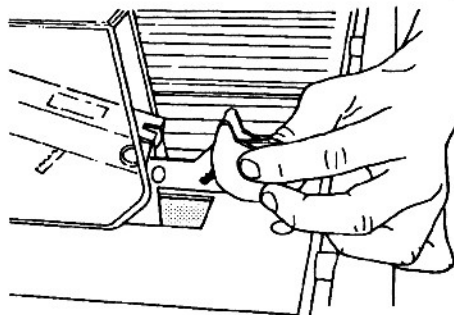

Fig. D-7
3. See Fig. D-7. Adjust the anti-kickback cams.
If you will be using the Sawsmith 2000 in the **radial arm saw mode**, lift the anti-kickback cams and secure them in the notch so they will not engage the workpiece during the cutting operation. See Fig. D-7.